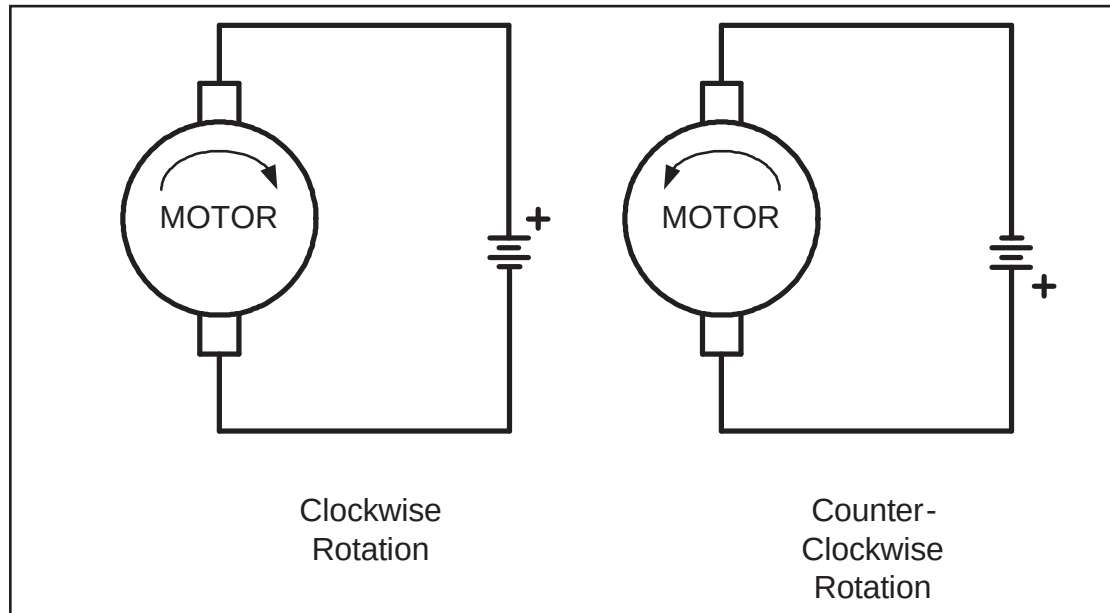

**Figure 1. DC Motor Rotation (Permanent Magnet Field)**
Figure 1 shows the DC motor rotation for clockwise (CW) and counter-clockwise (CCW) rotations. See Table 1 for selected DC motors.